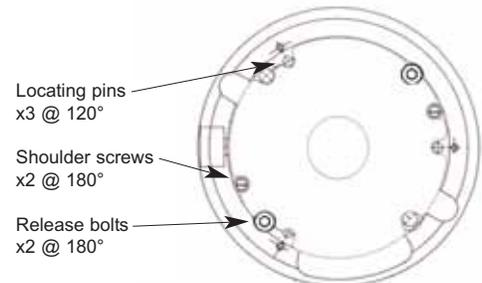

Figure 5
- 2a. Insert two release bolts (5/16-24x1.25") provided with coil and armature kits. Tighten down until pressure is relieved off the two shoulder screws (8S). (see Fig. 5)
- 3a. Remove the two shoulder screws. Remove the two release bolts by alternately turning 1/2 turn (ccw) at a time until pressure spring (3) has relaxed. Remove both release bolts. Lift armature (4) and shim (5) out of brake.